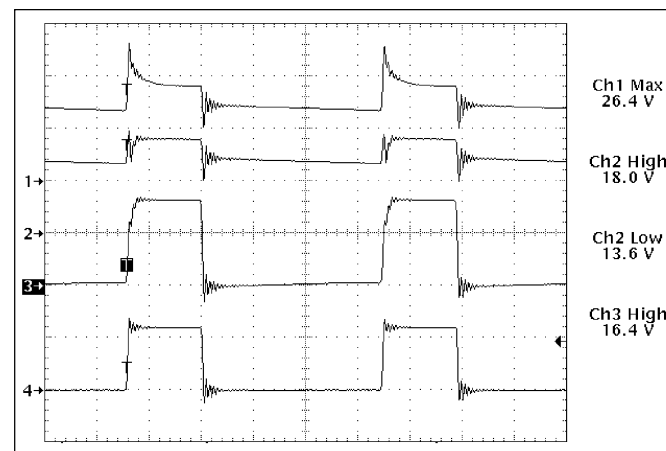

Figure 7: V_{CC2} Charge Pump Operation (1µs/div).
In order to fully turn on the high side NFET, a voltage greater than the input voltage must be applied to V_{CC2} to bias the GATE(H) driver. Referring to the application diagram on page 1; a simple charge pump circuit can be implemented for this purpose through capacitor C6, resistor R1, and diodes D1 and D2. The input voltage, less the drop in D1 is stored in C6 during the off-time period. When the high-side FET turns on, it drives the inductor switching node and C6 high causing schottky diode D1 to reverse bias. The charge stored in C6 is transferred to V_{CC2} through R1. Zener diode D2 clamps the V_{CC2} voltage to 18V to prevent the V_{CC2} from exceeding its 20V Max rating (see Figure 7).